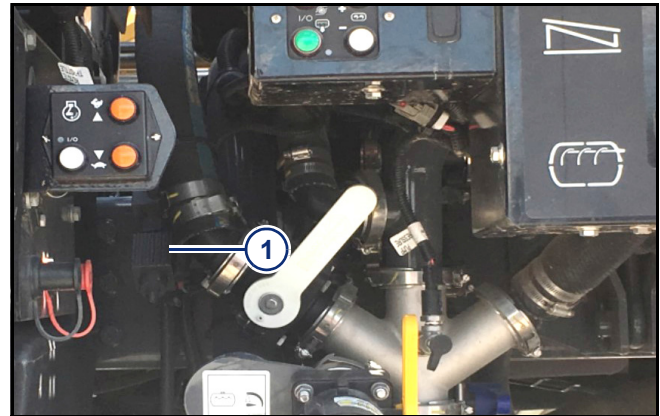

Figure 1
- [Figure 1]** - Locate the PWM cartridge (1) just behind the throttle control on the remote fill station.